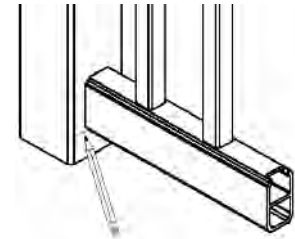

Figure 4. Marking Location of Bottom Bracket
5. Determine Bottom Brackets and Foot-Block Length. Hang assembled railing section in brackets and mark post underneath the bottom rail as shown in Figure 4. Measure distance from the top of the deck to bottom of the bottom rail at the center of the section. Add 1-5/8" to this measurement and cut the foot block to the resultant length. **EXAMPLE:** If the distance from the bottom of the rail to the deck surface is 2-1/2" then the foot-block length = 2-1/2" + 1-5/8" = 4-1/8".
7. Install bottom brackets. Align the bottom of the 2" bracket with the line that was marked in Step 5 (Figure 4). Center the bracket on the post and pre-drill the post through the four outside holes with a 1/8" bit. Secure the bracket in place using the #10 x 3/4" Philips pan head screws provided.